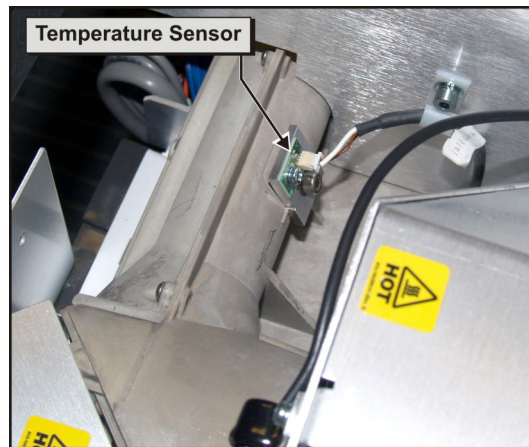

Figure 5-64 Integrator Temperature Sensor
3. Remove integrator temperature sensor (**Figure 5-64**).